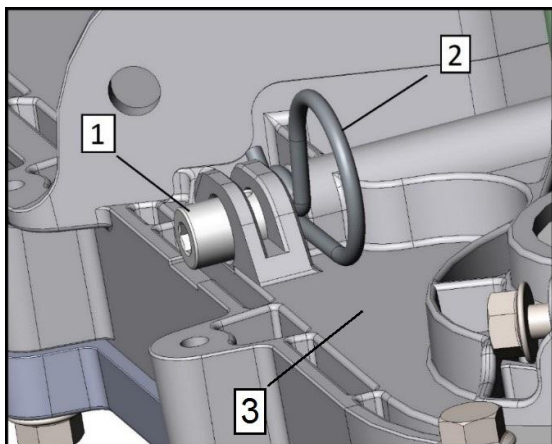
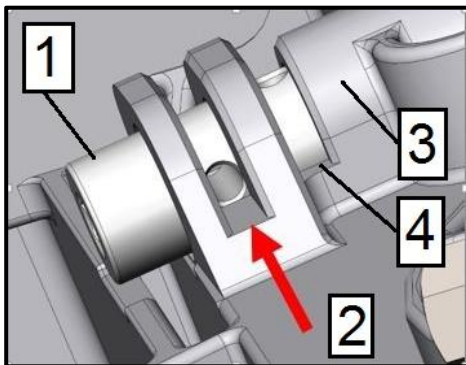

Fig.29
Fig. 30
1. Lift the rear of the snowmobile so that the caterpillar does not touch the ground. Take out the fixing pin (pos.1, Fig. 29) from the adjusting screw (pos.2, Fig. 29) on the back of the housing.
3. Make sure that one hole in the screw, the first or second hole in motion, and the first or second hole in motion match the corresponding groove in the housing, and the first or second hole in motion. For example, according to (pos.2, Fig. 30), the second hole is in motion. Make sure that the fixed cotter pin (position 2, figure 29) is installed in the combined hole and groove (position 2, figure 30).